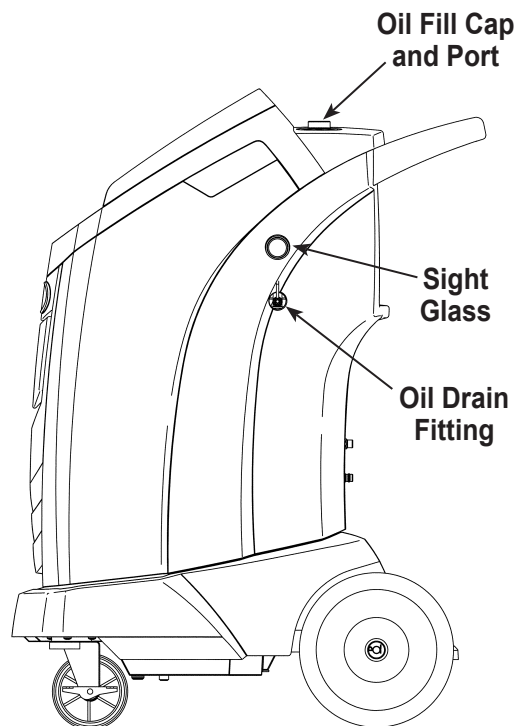

Figure 13
3. Slowly open the oil fill cap to verify there is no pressure in the machine. Then carefully remove the cap. See Figure 13.